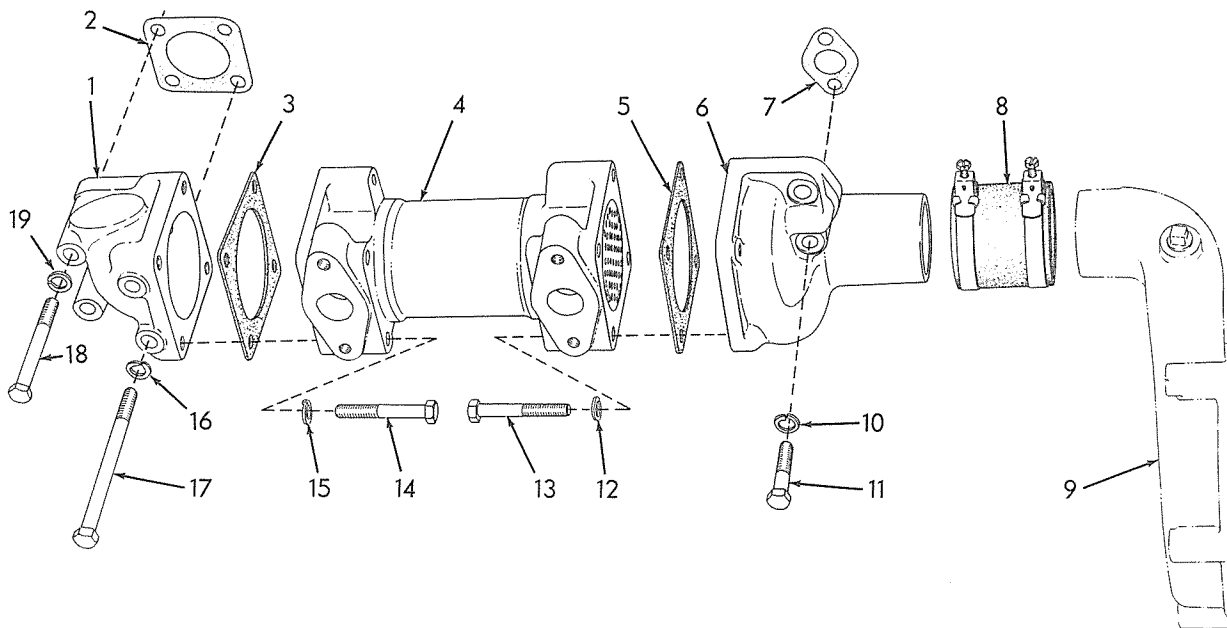

Fig. 14—Engine Oil Cooler Details (Motor Graders)
- d. Remove capscrews (15) and lockwashers (14) attaching adapter (13) to torque converter and/or transmission oil cooler. Remove capscrews (10) and lockwashers (9) attaching oil cooler (3) to cylinder block.
- e. Remove engine oil cooler (3) and gaskets (2) (6) and (12) from engine.
- f. Remove capscrews (7) and lockwashers (8) and remove adapter (13) and gasket (11) from engine oil cooler (3).
2. ENGINE OIL COOLER REMOVAL (MOTOR GRADERS) Fig. 14
- b. Disconnect engine lubricating oil inlet and outlet lines from the oil cooler (4).
- c. Remove capscrews (13) and lockwashers (12)